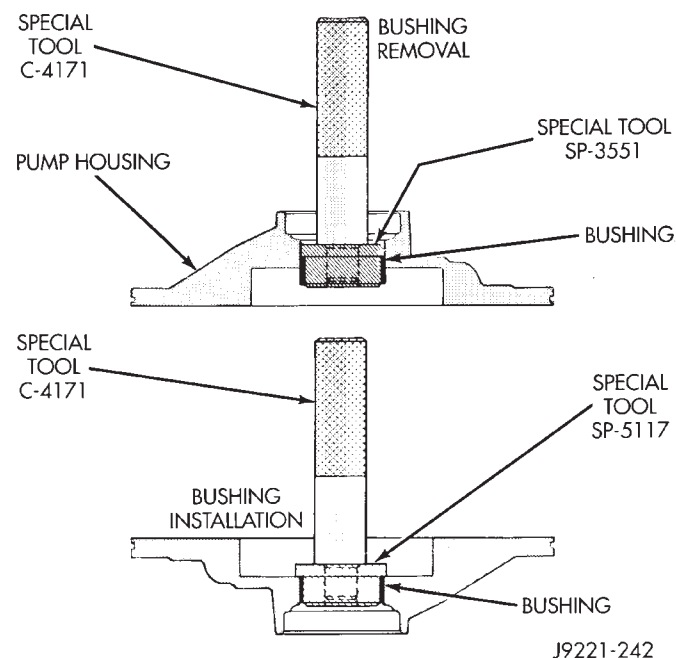

Fig. 123 Removing Oil Pump Bushing
(1) Remove pump bushing with Tool Handle C-4171 and Bushing Remover SP-3551 from Tool Set C-3887-J (Fig. 123).
(2) Install new pump bushing with Tool Handle C-4171 and Bushing Installer SP-5117 (Fig. 123). Bushing should be flush with pump housing bore.